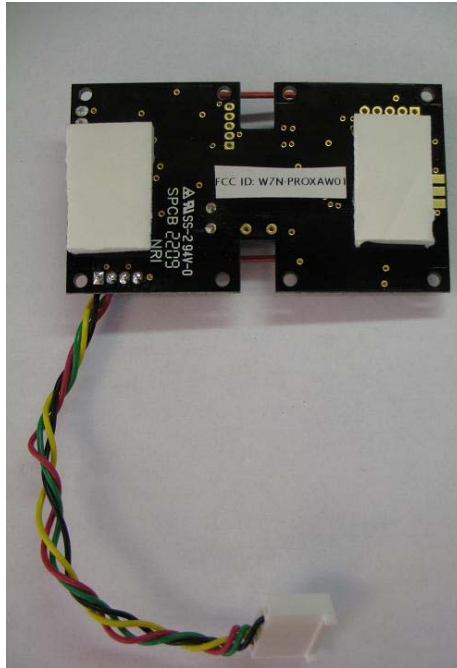

Figure 1.
1. Place double sided foam tape on the back side of the module as shown in Figure 1